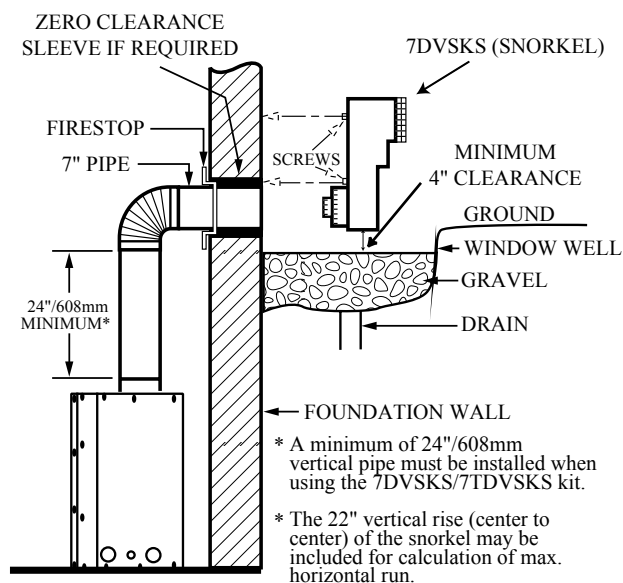

Fig. 30
2. Remove soil to a depth of approximately 16" below base of snorkel. Install drain pipe. Install window well (not supplied). Refill hole with 12" of coarse gravel leaving a clearance of approximately 4" below snorkel. (Fig. 30)
7. Level the soil so as to maintain a 4" clearance below snorkel. (Fig. 30)